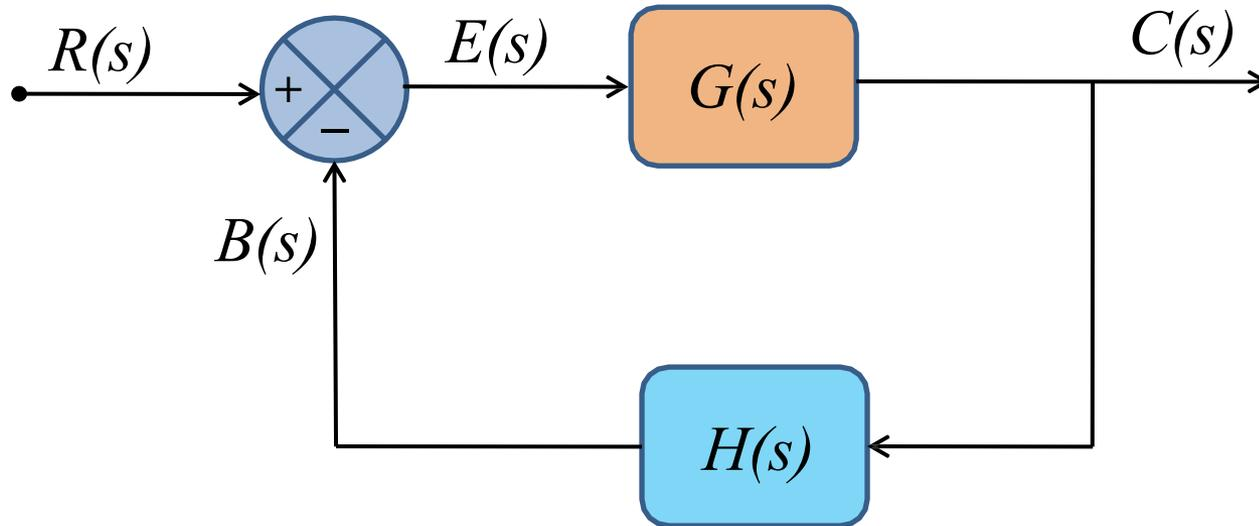

Fig. 1 : Closed-loop system
$$\begin{aligned} \text{From Fig.1, } E(s) &= R(s) - B(s) \\ &= R(s) - H(s)C(s) \quad [ \because B(s) = H(s)C(s) ] \\ &\text{----- (4)} \end{aligned}$$